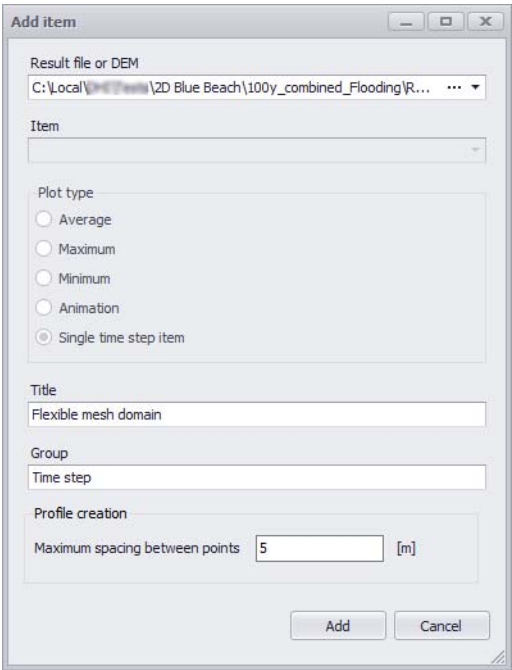

Figure 20.42 The 'Add item' dialog where the DEM file and settings are specified
- Select the DEM file, as well as the item if the file contains multiple items. A maximum spacing must also be specified: it controls the spacing between points along the DEM profile (Figure 20.42).